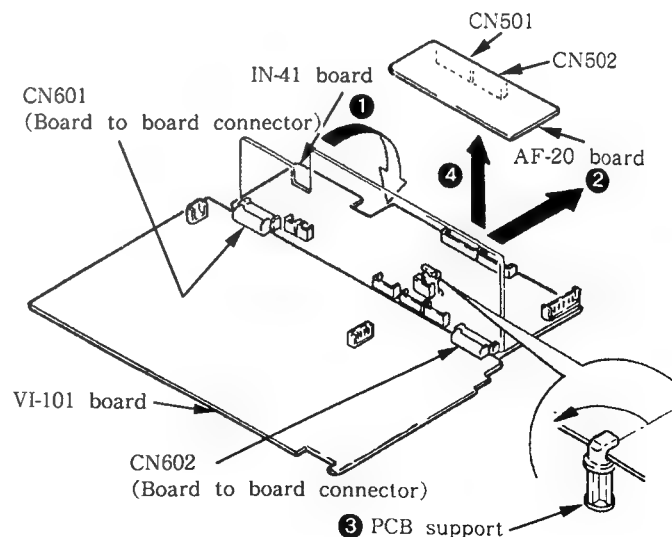

Fig. 3-3.
- 1) Flat the IN-41 board as shown in Fig. 3-3. ①.
- 2) As shown in Fig. 3-3. ②, pull out the IN-41 board from the VI-101 board.
- 3) Before removing the AF-20 board, turn PCB support ③.
- 4) Remove the AF-20 board from the VI-101 board ④.